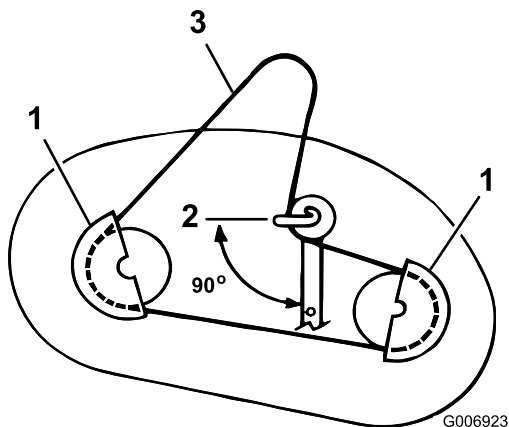

Figure 32
2. Remove the pulley cover mounting screws and pulley covers from both blade pulleys (Figure 32).
3. Loosen, but do not remove, the bolt and nut that secures the idler pulley and the belt guide (Figure 32).
2. Position the idler pulley belt guide so that it points toward the left, 90° to the idler arm (Figure 32).
4. Install the left and right pulley covers with the mounting screws (Figure 32).